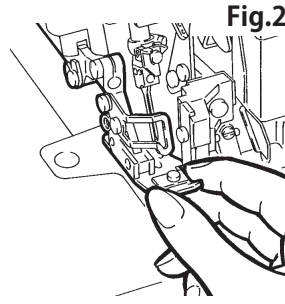

Fig.2
- Check to see if the presser foot is secured (raise the presser foot by the foot lifter and press it by hand front to back and left to right). (Fig. 2)